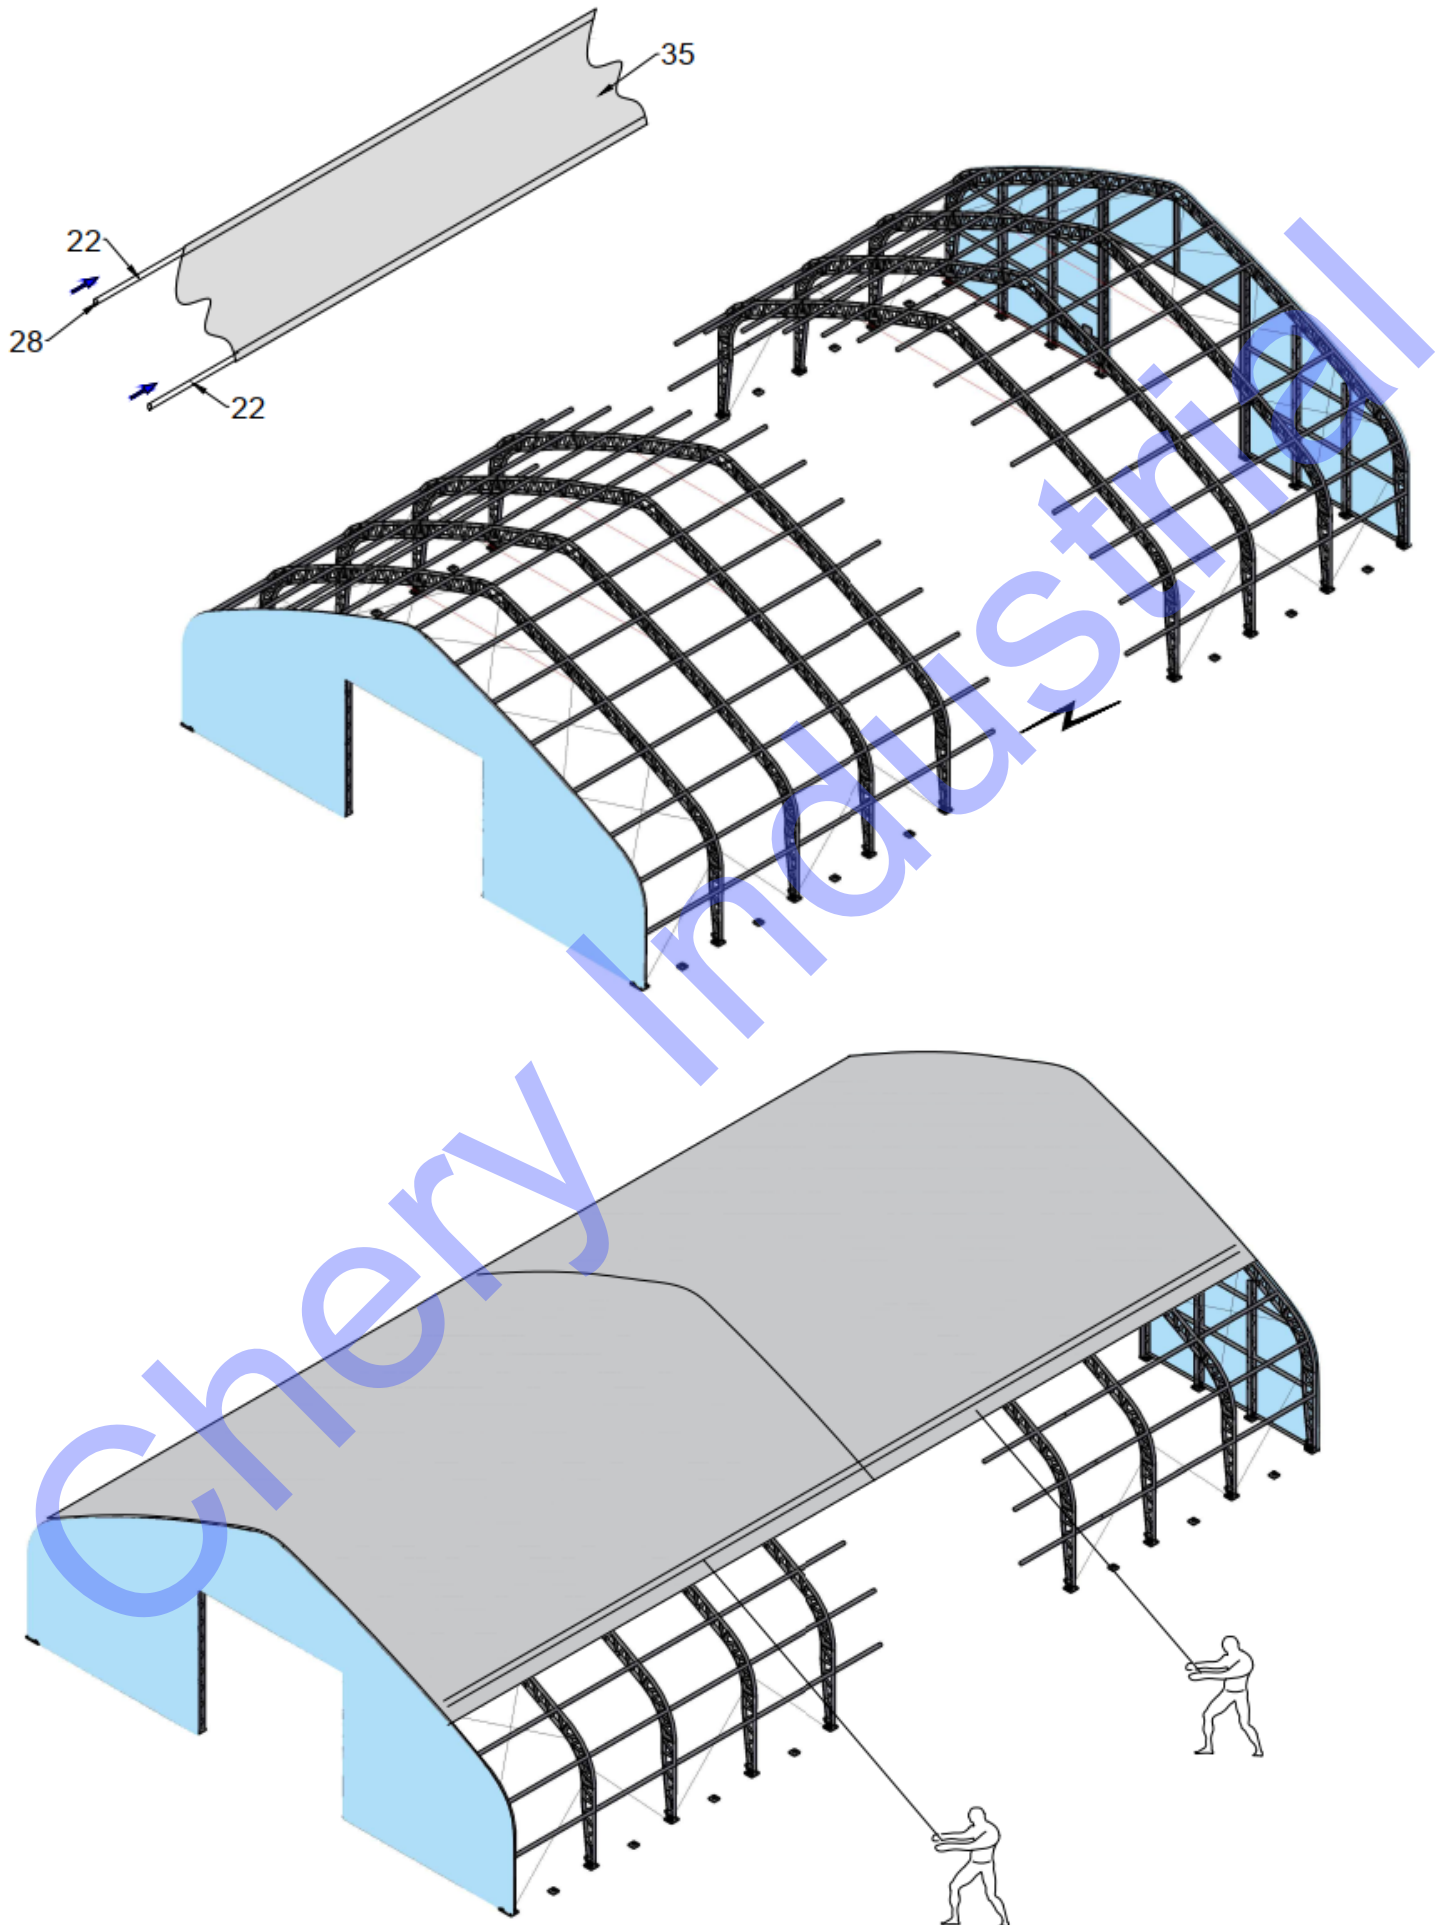
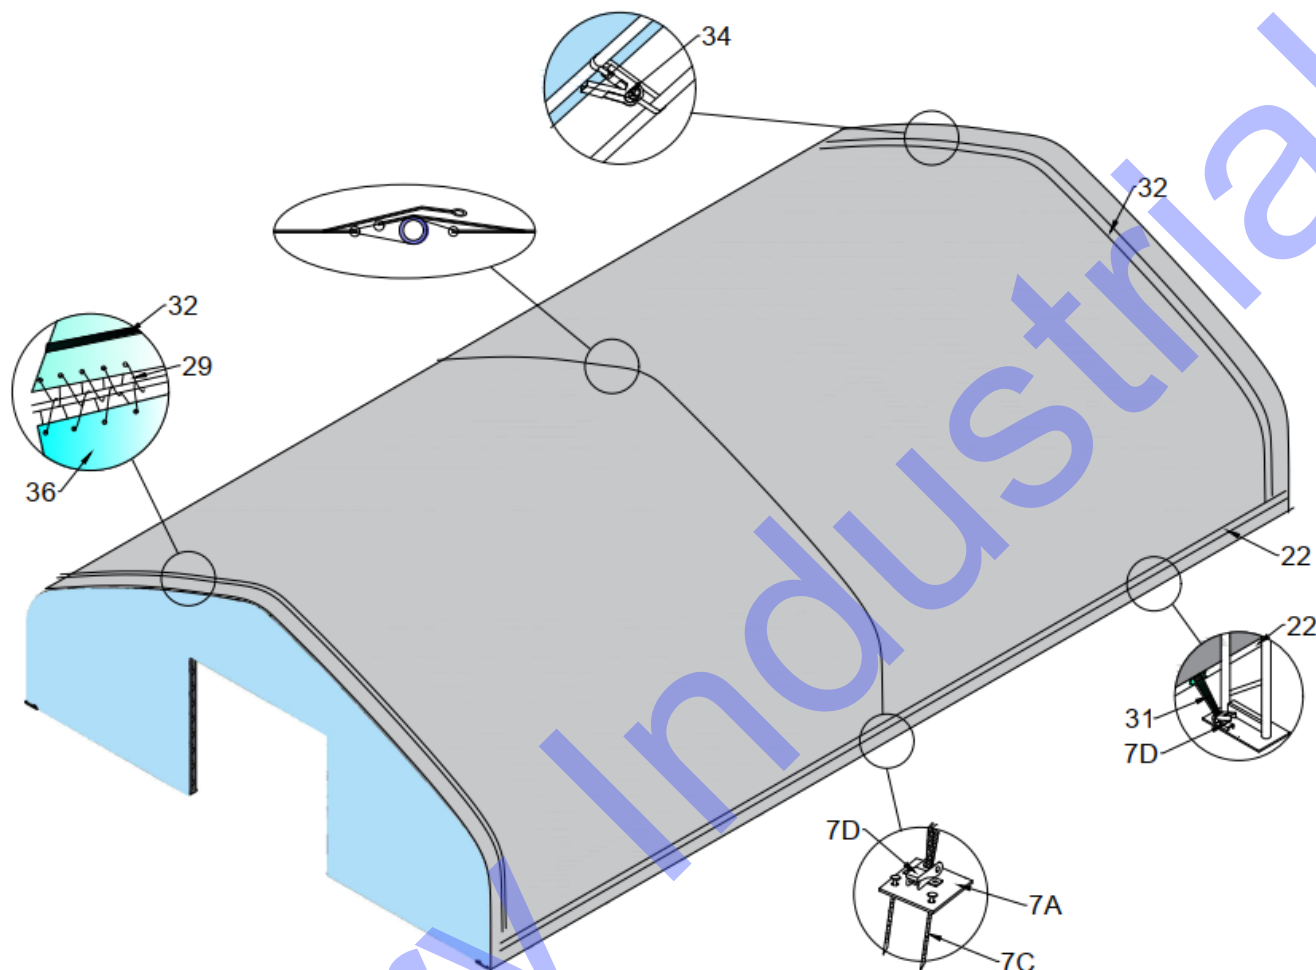

Figure 7
Figure 8
1. As Figure 7 shows, when two pieces of Roof cover is over top of Frame assembly (see Figure 7), insert the PVC tube(Part No.32)into pockets along both sides of Roof cover, find the Small ratchet(Part No.34) to connect on PVC tube in Roof cover by parts.(see Figure 8).
3. Insert the Tensioning tubes(No.22),make the Roof cover well fold to the frame ,then put the Plastic caps(No.28) to end of tensioning tubes.(see Figure 8),then fix the ropes on frame by turns.